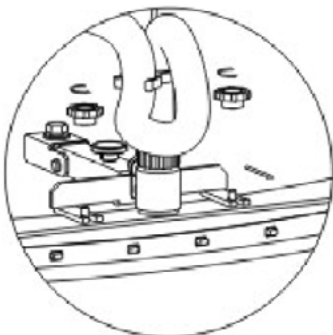

Figure 12
- Check the wearing condition of the scraper edge. If the wearing condition is so serious that the adjustment will not work, turn over the rubber blade and use another side of it. (see figure 12) If another side is also worn out, it has to be replaced by new rubber blade.